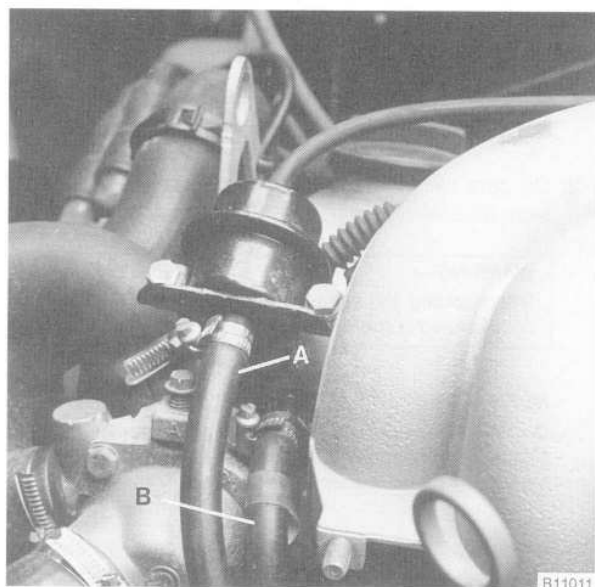

Fig. 5. Fuel return line (A) at fuel pressure regulator and fuel supply line (B) at fuel rail.
14. Label and then remove the fuel supply line from the fuel rail and the fuel return line from the pressure regulator. See Fig. 5.